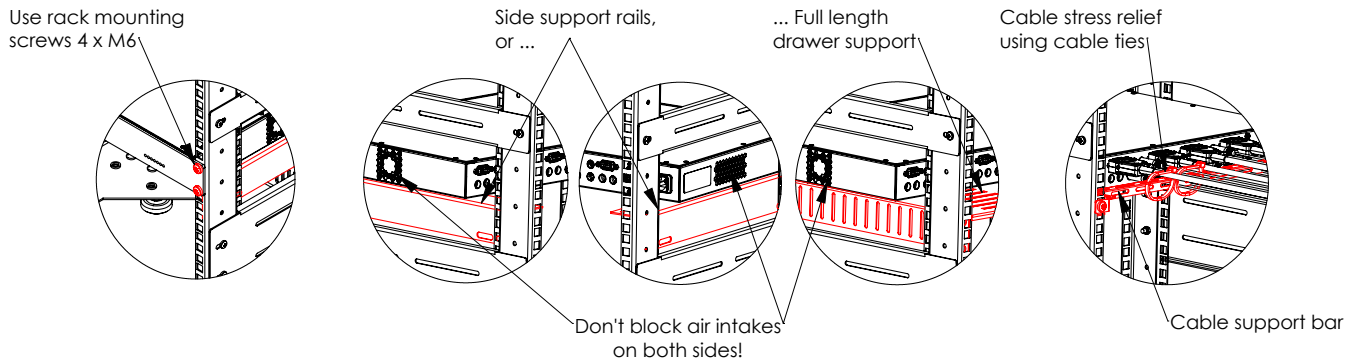

Figure 5: DSCU Rack mounting guidelines
- It is mandatory to support the unit when rack mounted, either on the sides or backside, see figure 5.